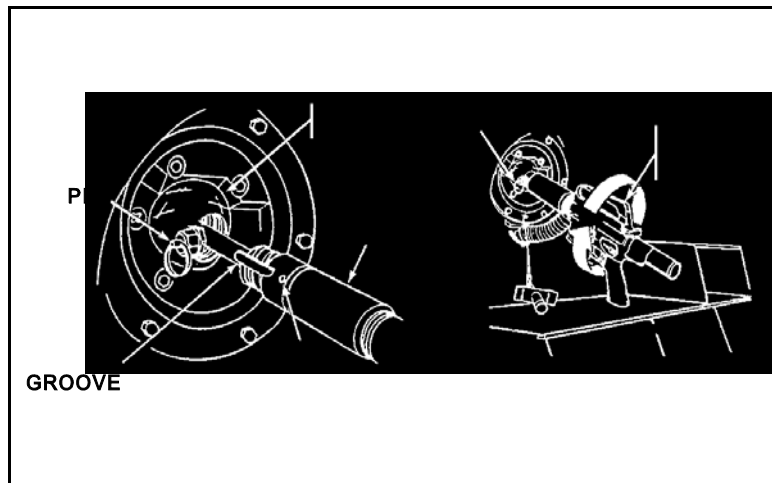

Figure 3. Inserting firing port submachine gun into firing port.
3. Install the gun (Figure 3).